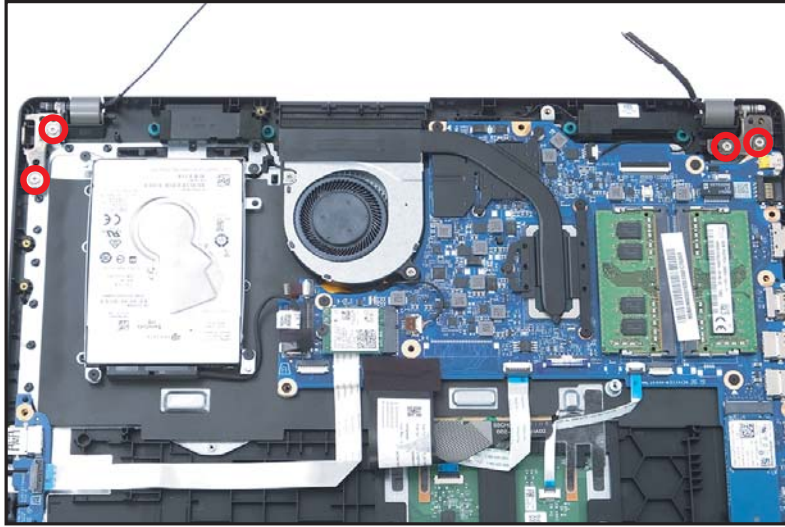

Figure 1-29. LCD Module Removal
5. Remove four (4) screws securing the LCD hinges in place (Figure 1-29).